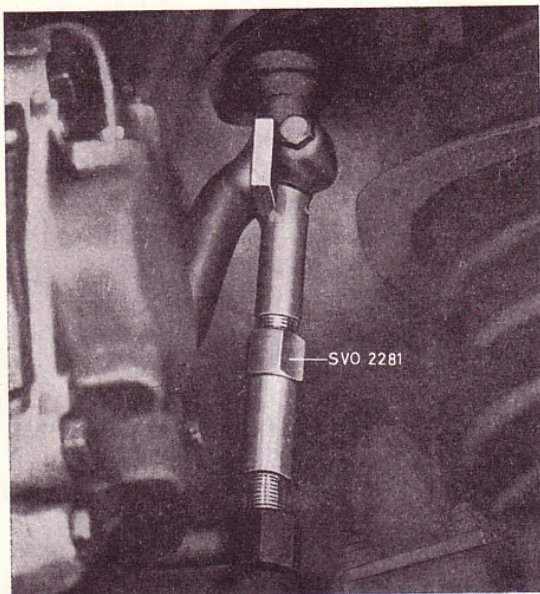

Fig. 20. Removing the lower ball joint.
4. On vehicles with disc brakes, disconnect the brake line from the retainer. Fit tool SVO 2281 on the stub axle as shown in Fig. 20. It may be necessary to bend the retainer for the brake line slightly to one side. Turn the nut on the tool until the tool begins to tension. Then turn the nut until the ball joint releases, but no more than 1 1/2 turns. If the ball joint does not release at this stage, strike a few light blows on the stub axle